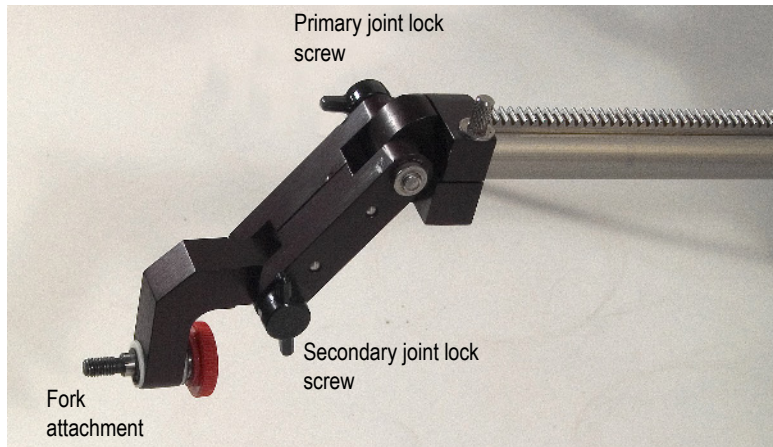

Figure 3-3 The probe-holder position adjustments
- ◆ Adjust the probe position with the two adjustable and lockable joints (see Figure 3-3 on page 29).